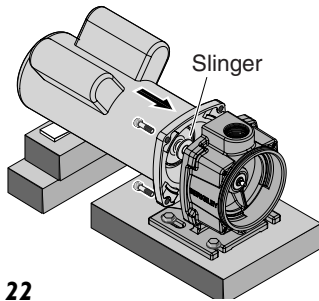

Figure 22
2. Slide the motor shaft through the seal and bolt up the motor (see Figure 22). Make sure that the slinger is on the shaft between the bracket and the motor flange. Make sure that you don't chip the seal face with the shaft shoulders and that the shaft does not take the weight of the motor at any time.